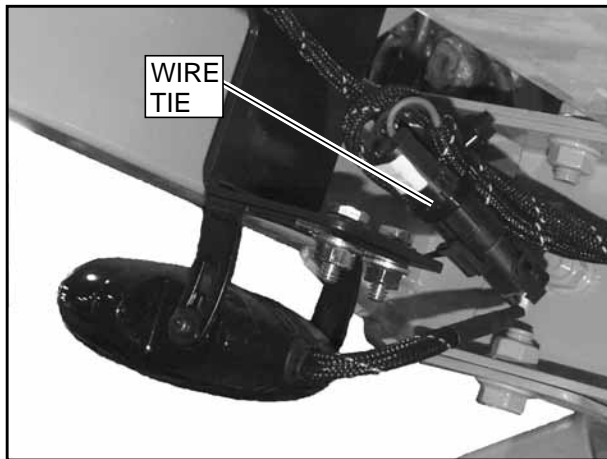
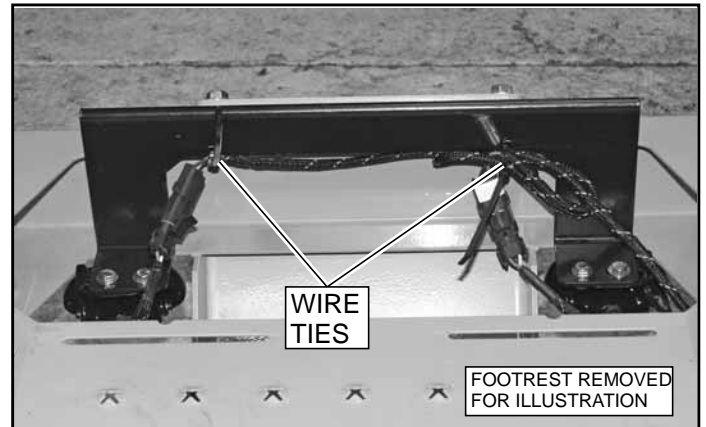

FIG. 15
FIG. 16
17. Connect the wire harness to the lights. Secure the wire harness to the bracket with wire ties (Fig. 15 & Fig. 16). Coil and tie the extra length of wire harness together (Fig. 15).